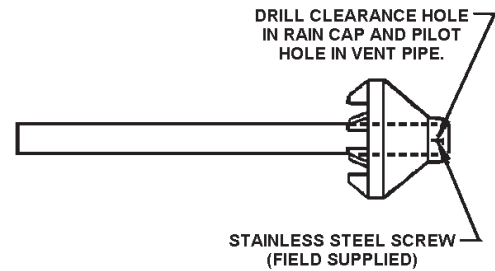

Figure: 26
- Cement rain cap to smaller diameter kit pipe, see Figure 26.
NOTE: Instead of cementing the smaller pipe to the rain cap, a field-supplied stainless steel screw may be used to secure the 2 components together when field disassembly is desired for cleaning, see Figure 26.
- b) Cement the rain cap to the smaller diameter kit pipe, see "Figure: 26".
NOTE: Instead of cementing the smaller pipe to the rain cap, a field-supplied stainless steel screw may be used to secure the 2 components together when field disassembly is desired for cleaning, see "Figure: 26".